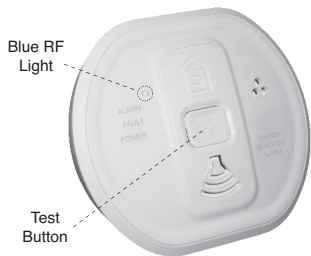

Figure 3
6. When in the House Code mode, the blue light (on the front of the Alarm - see figure 3) will flash a number of times every 5 seconds to indicate:
8. Press the Test Button (see figure 3) on all the Alarms in turn and check all the other Alarms are sounding at the same time. If they are not all communicating see section below “RadioLINK Troubleshooting”.
- If they are interconnected using RadioLINK modules, hold down the Test button until the blue light on the cover of the Alarm illuminates (see figure 3). Check that all other Alarms sound.